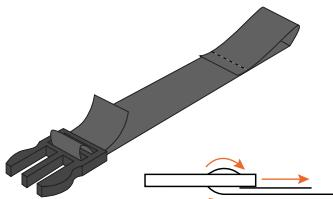

Figure 5 - Assembling loop strap and buckle.
- 6.** Attach the end of the click buckle to the 63 cm long strap with loop, as shown in figure 5.